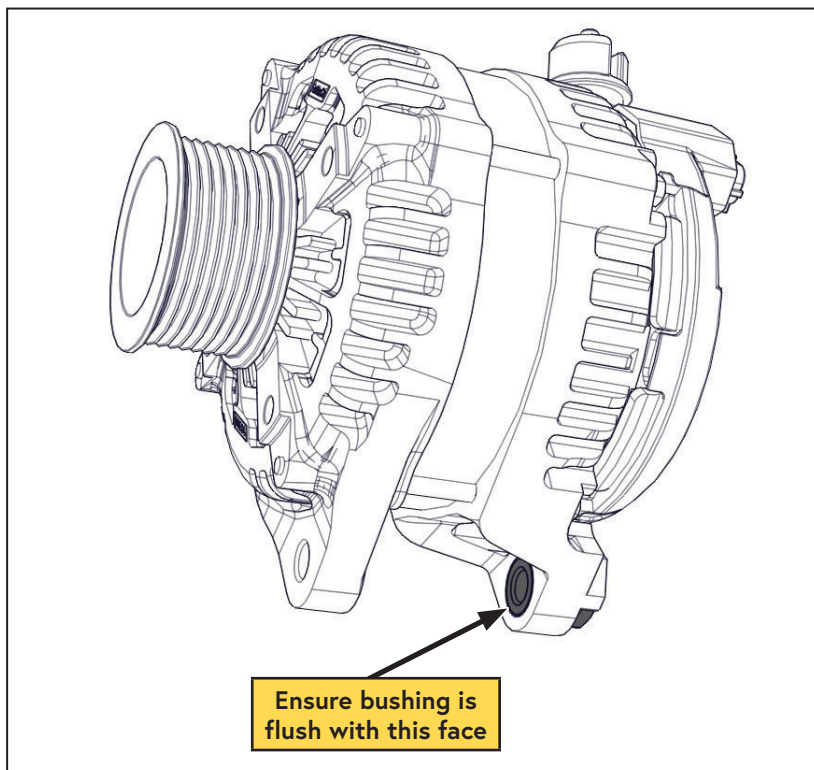

Figure 27 — Reset alternator slide bushing
- ☐ Ensure the alternator slide bushing is flush with the inside face of the alternator mount (Figure 27).